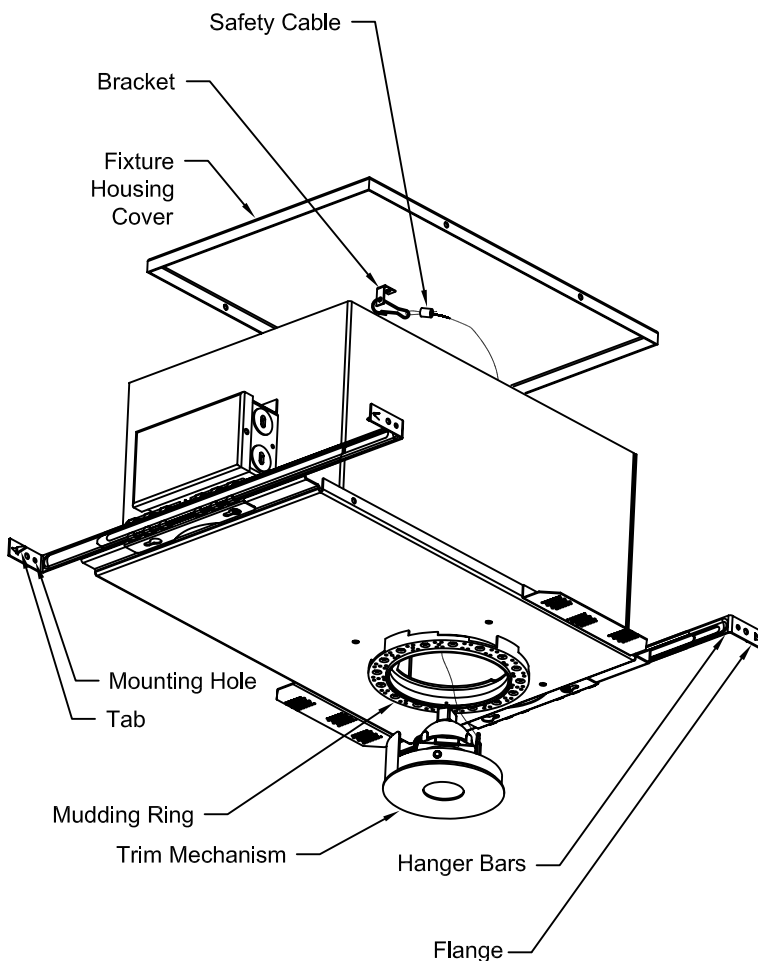
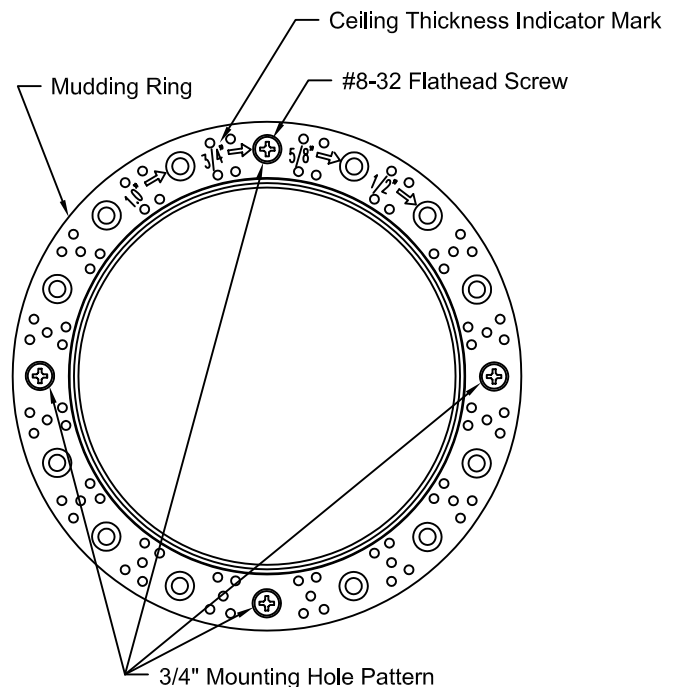
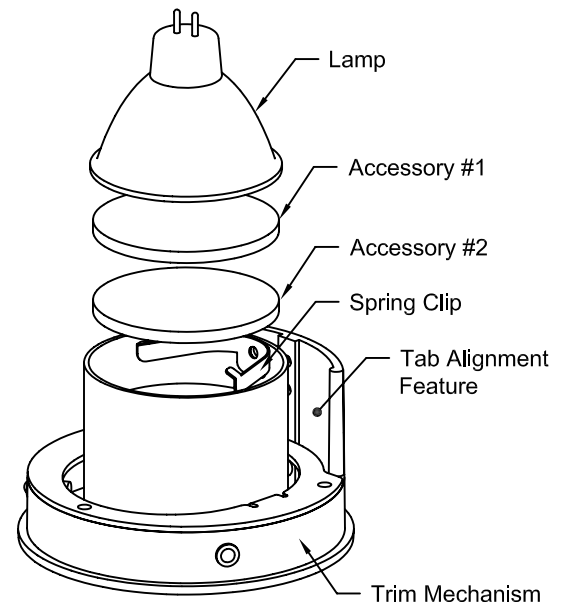
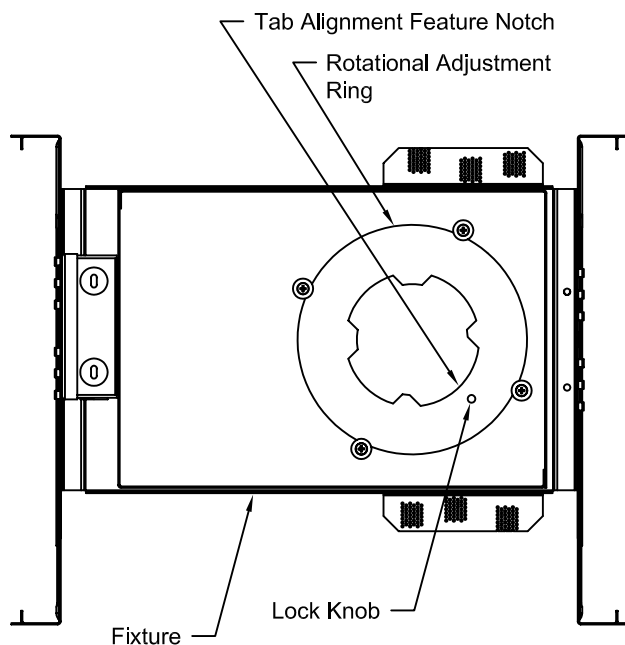

Figure 1
Figure 2
Figure 4
Figure 5
2. Hammer Flanges to seat Hanger Bar Tabs in rafters. See Fig. 1.
3. Secure Hanger Bars using one (1) nail in Mounting Hole in each Flange.
4. Mudding Ring is sent unmounted from factory. Adjust Mudding Ring to applicable Ceiling thickness by aligning and securing to Fixture using applicable Mounting Hole Pattern as indicated by Ceiling Thickness Indicator Mark imprinted on Mudding Ring. See Fig. 2.
5. Secure Mudding Ring using four (4) #8-32 x 1/2 inch Flathead Screws (for 1/2 inch, 5/8 inch and 3/4 inch Ceiling thickness) or four (4) #8-32 x 3/4 inch Flathead Screws (for 1 inch Ceiling thickness).
1. Connect Safety Cable attached to Banana Bracket on Trim Mechanism (See Fig. 1 & 5) to Fixture by inserting Safety Cable through opening in Fixture and inserting Snap Hook (See Fig. 5) on end of Safety Cable into hole in Bracket attached to inside of Fixture Housing Cover (See Fig. 1).
*Lamp Bracket accommodates from one (1) to three (3) accessories.
2. Slide out Lamp and/or Accessories from under Bracket Arm to remove. See Fig. 4.
4. To ensure original light beam placement, align Tab Alignment Feature on Trim Mechanism (See Fig. 4 & 5) with Tab Alignment Feature on Rotational Adjustment Ring inside Fixture (See Fig. 5).
3. Tighten Lock Knob inside Fixture to lock Rotational Adjustment Ring. See Fig. 5.